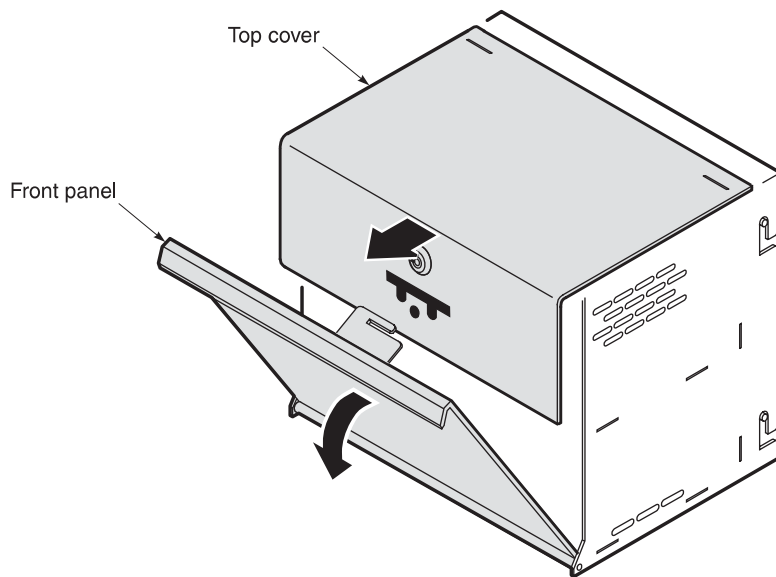

Figure 2. Top Cover Removal. With front door open, top cover slides forward for easy removal.
2. Drop down the front plastic panel and slide the top cover forward to expose the fuse panel and I/O connector (see Figure 2).